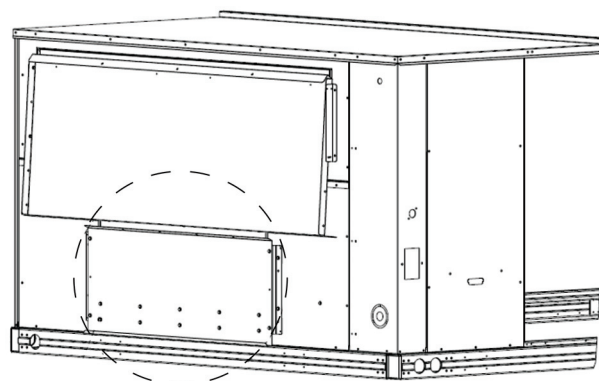

Fig. 30 — Shipping Location, Vertical Units
1. Remove the hood top panel from its shipping position on the unit end (see Fig. 30).